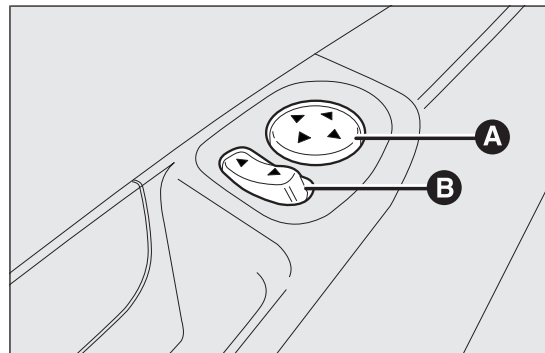

fig. 24
- ☐ select the mirror using selector B fig. 24;
- ☐ adjust the mirror using the four-way button A fig. 24 in the four directions.